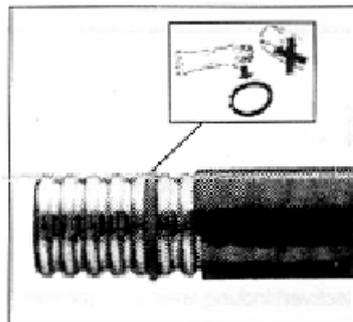

Figure C-11 Adding O-ring and applying grease
- 5) Add O-ring and apply proper amount of grease on it, as shown in Figure C-11.